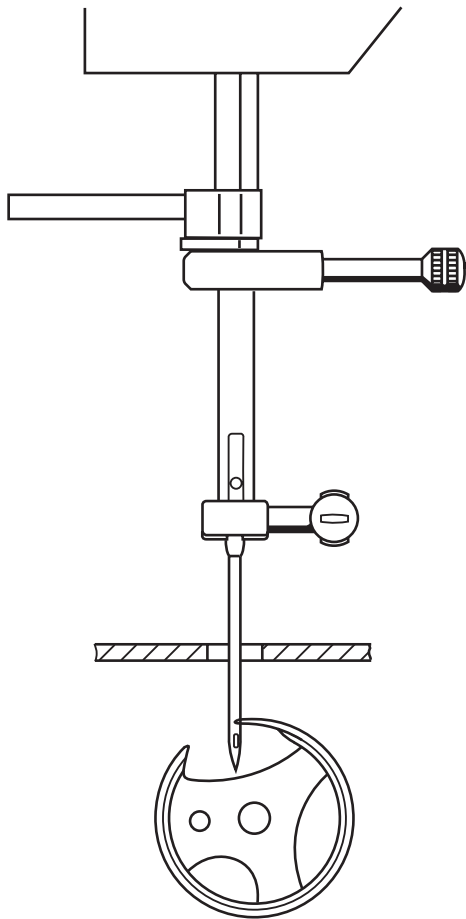

Fig. 33
When the needle bar has moved 2.2 mm upwards from its lowest position (with the machine set for straight stitch and center needle position), the sewing hook point must be exactly opposite the center line of the needle (fig. 33).
- Turn the handwheel in sewing direction until the needle-rise clamp is in contact with the spacer (fig. 33).
- Turn the handwheel a little backwards and then forwards until the needle-rise clamp rests on the spacer (fig. 33).